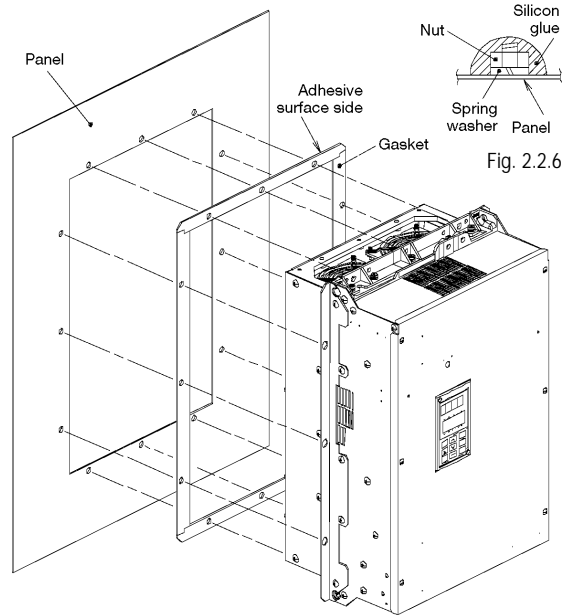

Fig.2.2.5
2. Install the drive and tighten the mounting bolt and nut. (Tightening torque: 119 lbs-inch [M8], 425 lbs-inch [M12]). Mounting hardware to be supplied by the customer. (refer to Fig. 2.2.5)